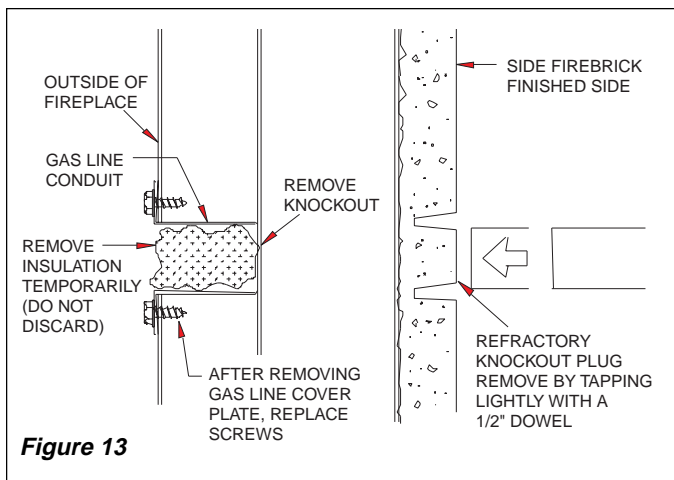

Figure 13
STEP 1: To install, remove the knockout indentation on the refractory (or firebrick) wall located approximately 2" above the refractory hearth floor. The knockout indentation must be firmly tapped with any solid object until it is released. Remove fragmented portion of refractory (see Figure 13, page 7).